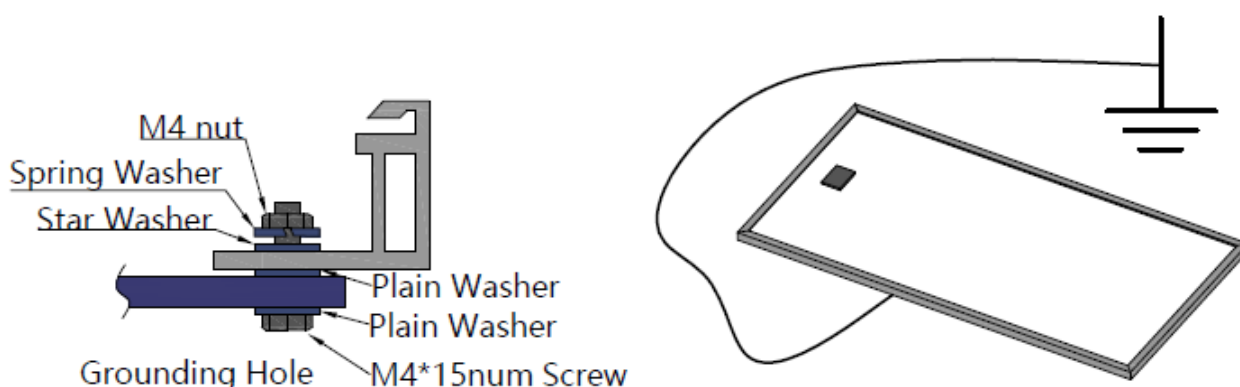

Figure 10: The ground mounting Clip of PV modules
- e) All module frames and mounting racks must be properly grounded in accordance with local and national electrical codes. Attach the equipment grounding conductor to the module frame using the hole and hardware provided. Note that a stainless steel star washer is used between the ground wire and module frame (see Figure 10 below). This washer is used to avoid corrosion due to dissimilar metals. Tighten the screw securely.